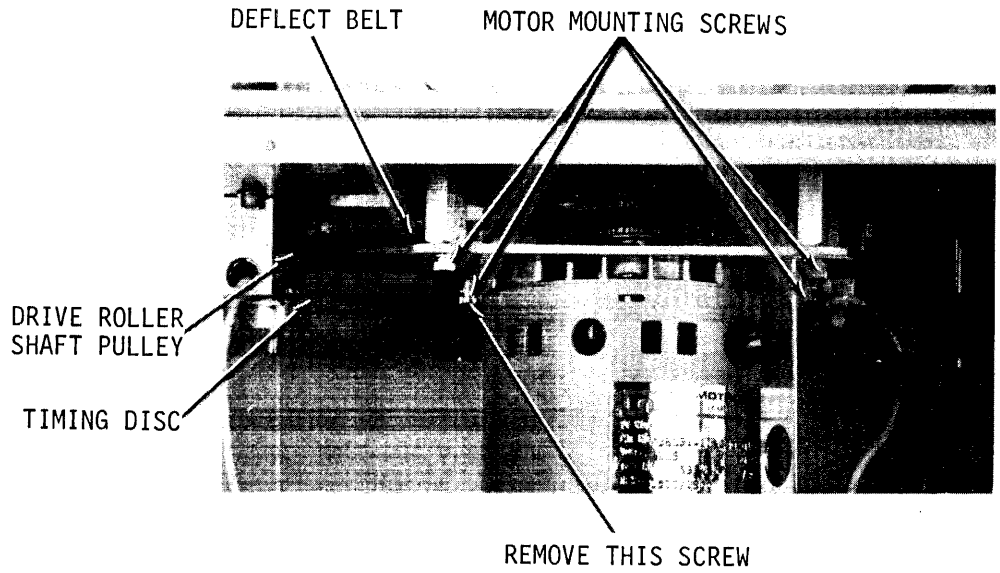

Figure 9-3. Main Drive Motor Mounting
- b. Using a 9/64 Allen wrench, LOOSEN three motor mounting plate screws (bottom of mainframe). Remove the fourth motor mounting plate screw, figure 9-3.